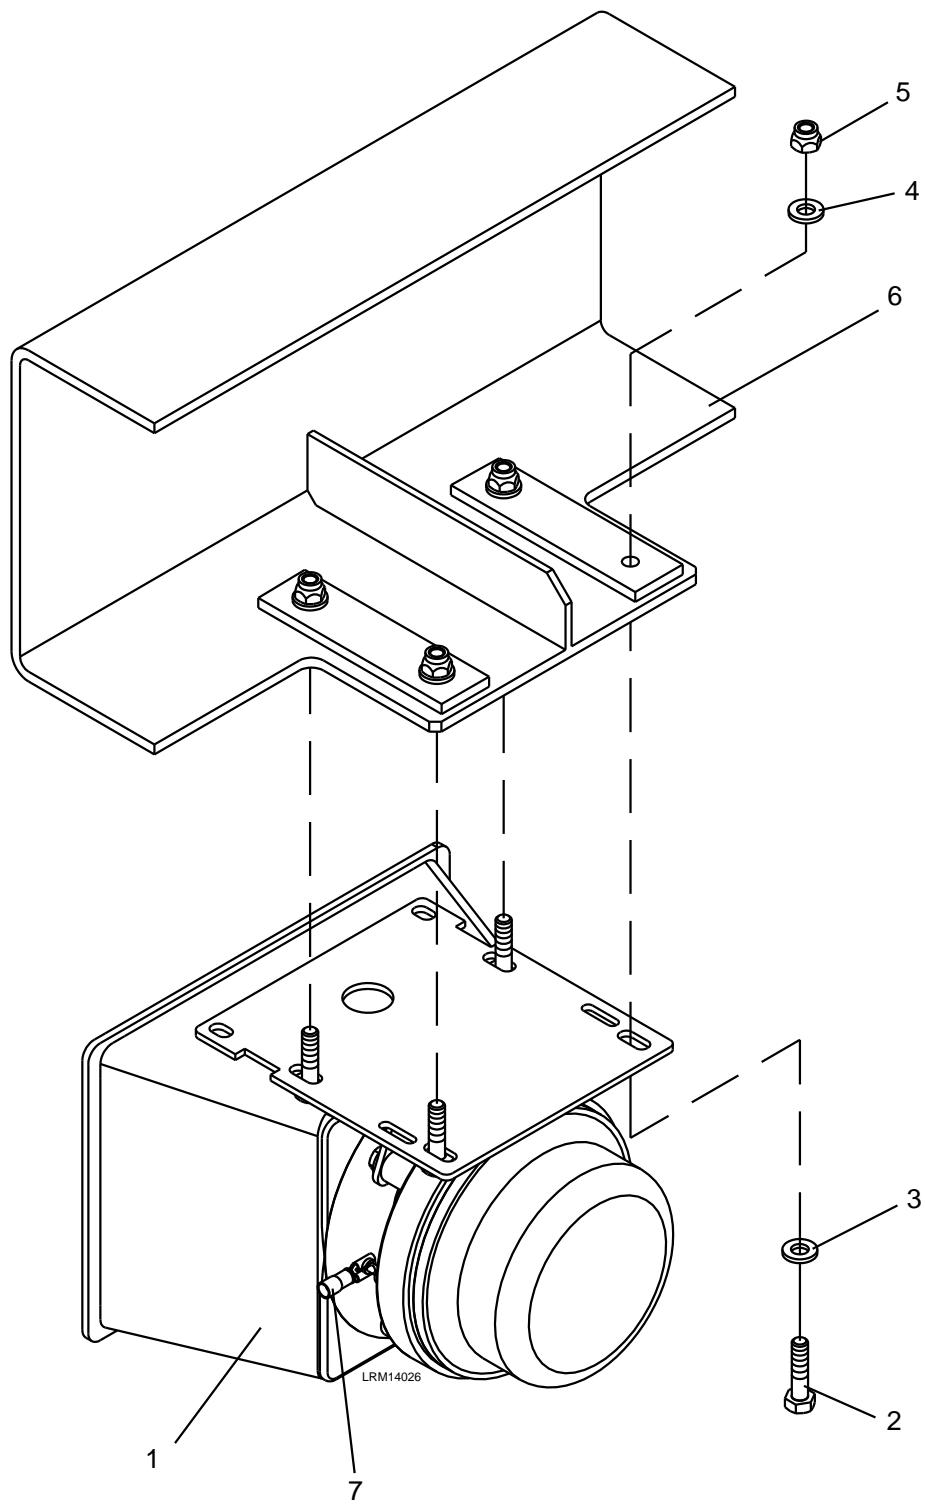

Figure 7-29: Horn / Gong Speaker
1. Disconnect the 1/4" Faston electrical connections (7) to the Horn / Gong Speaker (1).
2. Remove the four M6 ESNA nuts (5) and M6 plain washers (4), M6 x 25 bolts (2), and M6 plain washers (3). See Figure 7-29.
3. Carefully remove the Horn / Gong Speaker (1) from the mounting bracket (6).